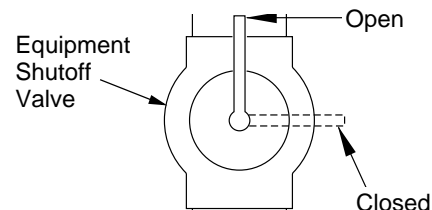

Figure 15 - Equipment Shutoff Valve
1. Close equipment shutoff valve (see Figure 15).
3. Check all joints from propane/LP supply tank to equipment shutoff valve (see Figure 15). Apply a noncorrosive leak detection fluid to gas joints. Bubbles forming show a leak.
1. Open equipment shutoff valve (see Figure 15, page 12).